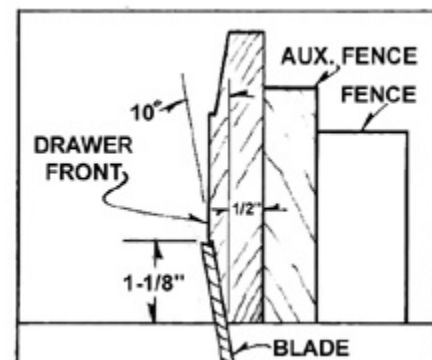

Figure 10: Drawer Front Bevel
3. Use the table saw to bevel the drawer front (P) (see **Figure 10**). **NOTE: The blade height at a 10-degree angle is 1-1/8".**
5. Cut the drawer guides (Q) according to the specified numbers and dimensions.
6. Mount two of the drawer guides (Q) to the drawer bottom (O) (see complete schematic for correct placement).